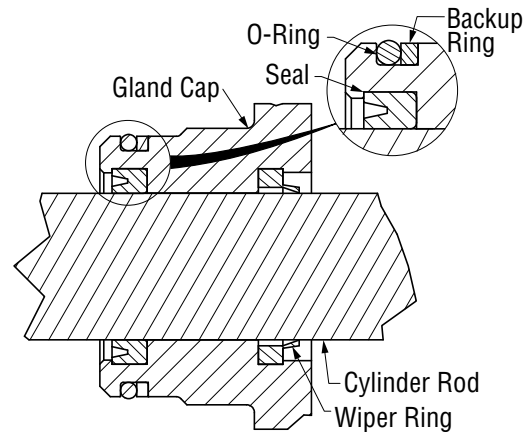

Figure 5-12, Gland Cap Seal
3. Install the seals and wipers in the gland cap. Note the direction of the seals. The cupped side or O-ring side of the seal should be facing the piston. (Figure 5-12)